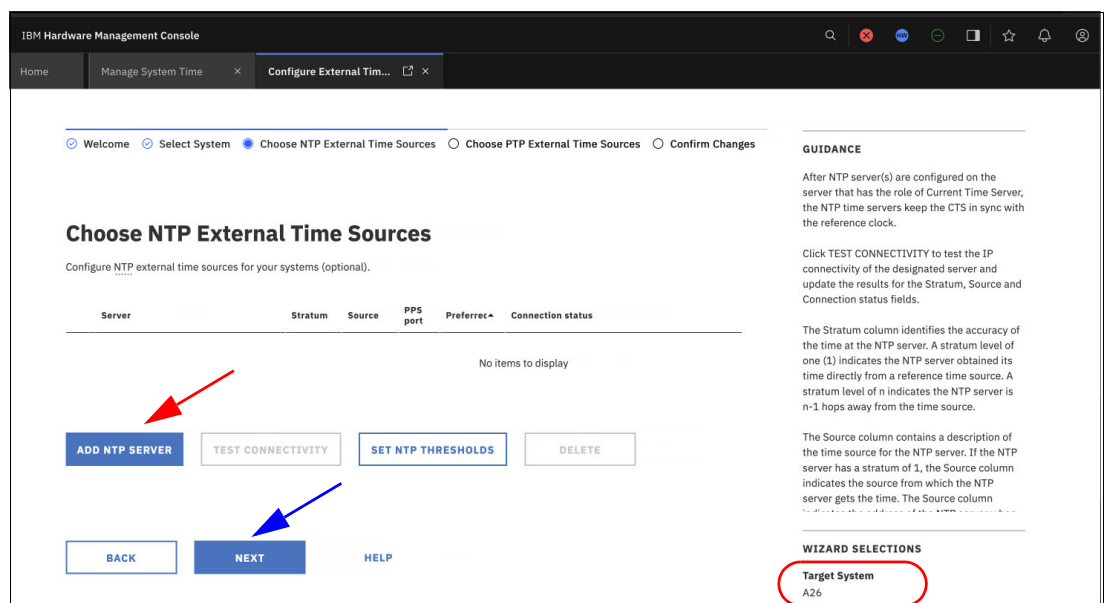

Figure 4-29 Choose NTP External Time Sources
1. In the Manage System Time task, select the button **Choose NTP External Time Source** at the top of the screen to view the menu and the target server for the configuration. In this example, A26 is already selected as the target server (Figure 4-29).